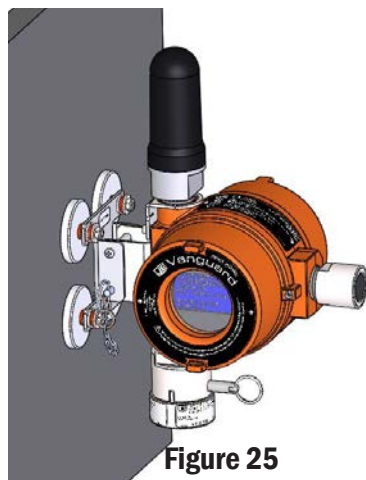

Figure 25
5. Place onto location gently or using a top-to-bottom “peeling” motion (Figure 25).